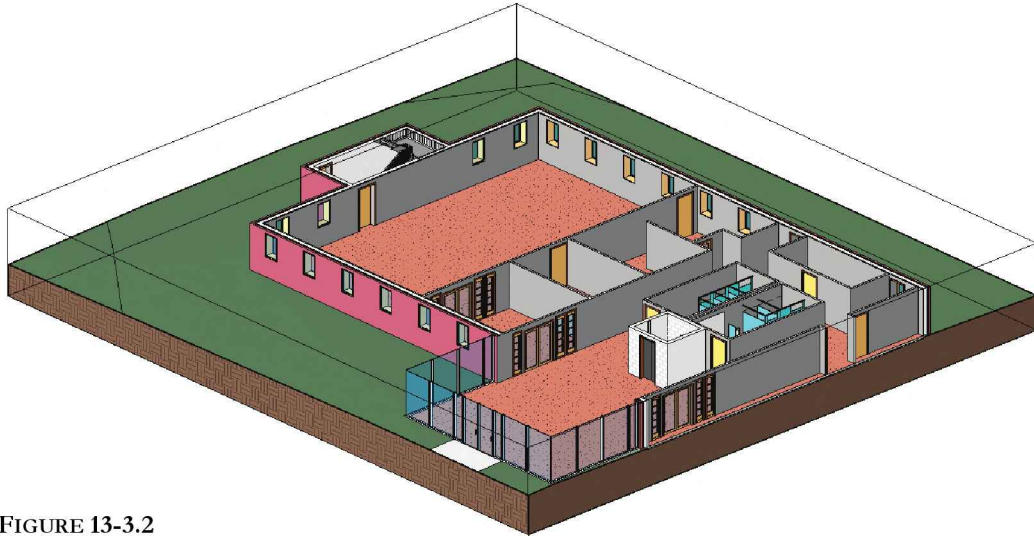

FIGURE 13-3.2
5. To practice using the **Section Box**, drag the grips around until your view looks similar to **Figure 13-3.2**.